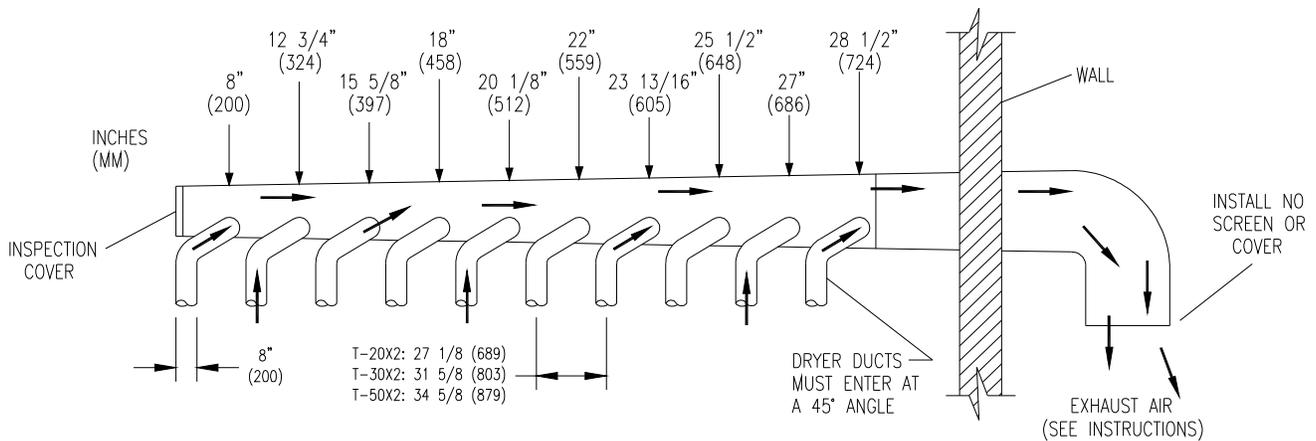

FIGURE 3- Dryer Exhausting Using A Main Discharge Duct
6. EXHAUST INSTALLATION. (Refer to Figure 3) Exhausting of the dryer(s) should be planned and constructed so that no air restrictions occur. Any restriction due to pipe size or type of installation can cause slow drying time, excessive heat, and lint in the room.
Installation of several dryers, where a main discharge duct is necessary, will need the following considerations for installation (see Figure 3). Individual 8" (200 mm) exhaust ducts from each dryer should enter main discharge duct at a 45-degree angle in the direction of discharge airflow.
NOTE: Never install the individual ducts at a right angle into the main discharge duct. The individual ducts from the dryers can enter at the sides or bottom of the main discharge duct. Figure 3 indicates the various round main duct diameters to use with the individual dryer ducts. The main duct can be rectangular or round, provided adequate airflow is maintained. The total exhausting (main discharge duct plus duct outlet from the dryer) should not exceed the equivalent of 14 ft. (4.25 m) and two elbows. The diameter of the main discharge duct at the last dryer must be maintained to exhaust end.